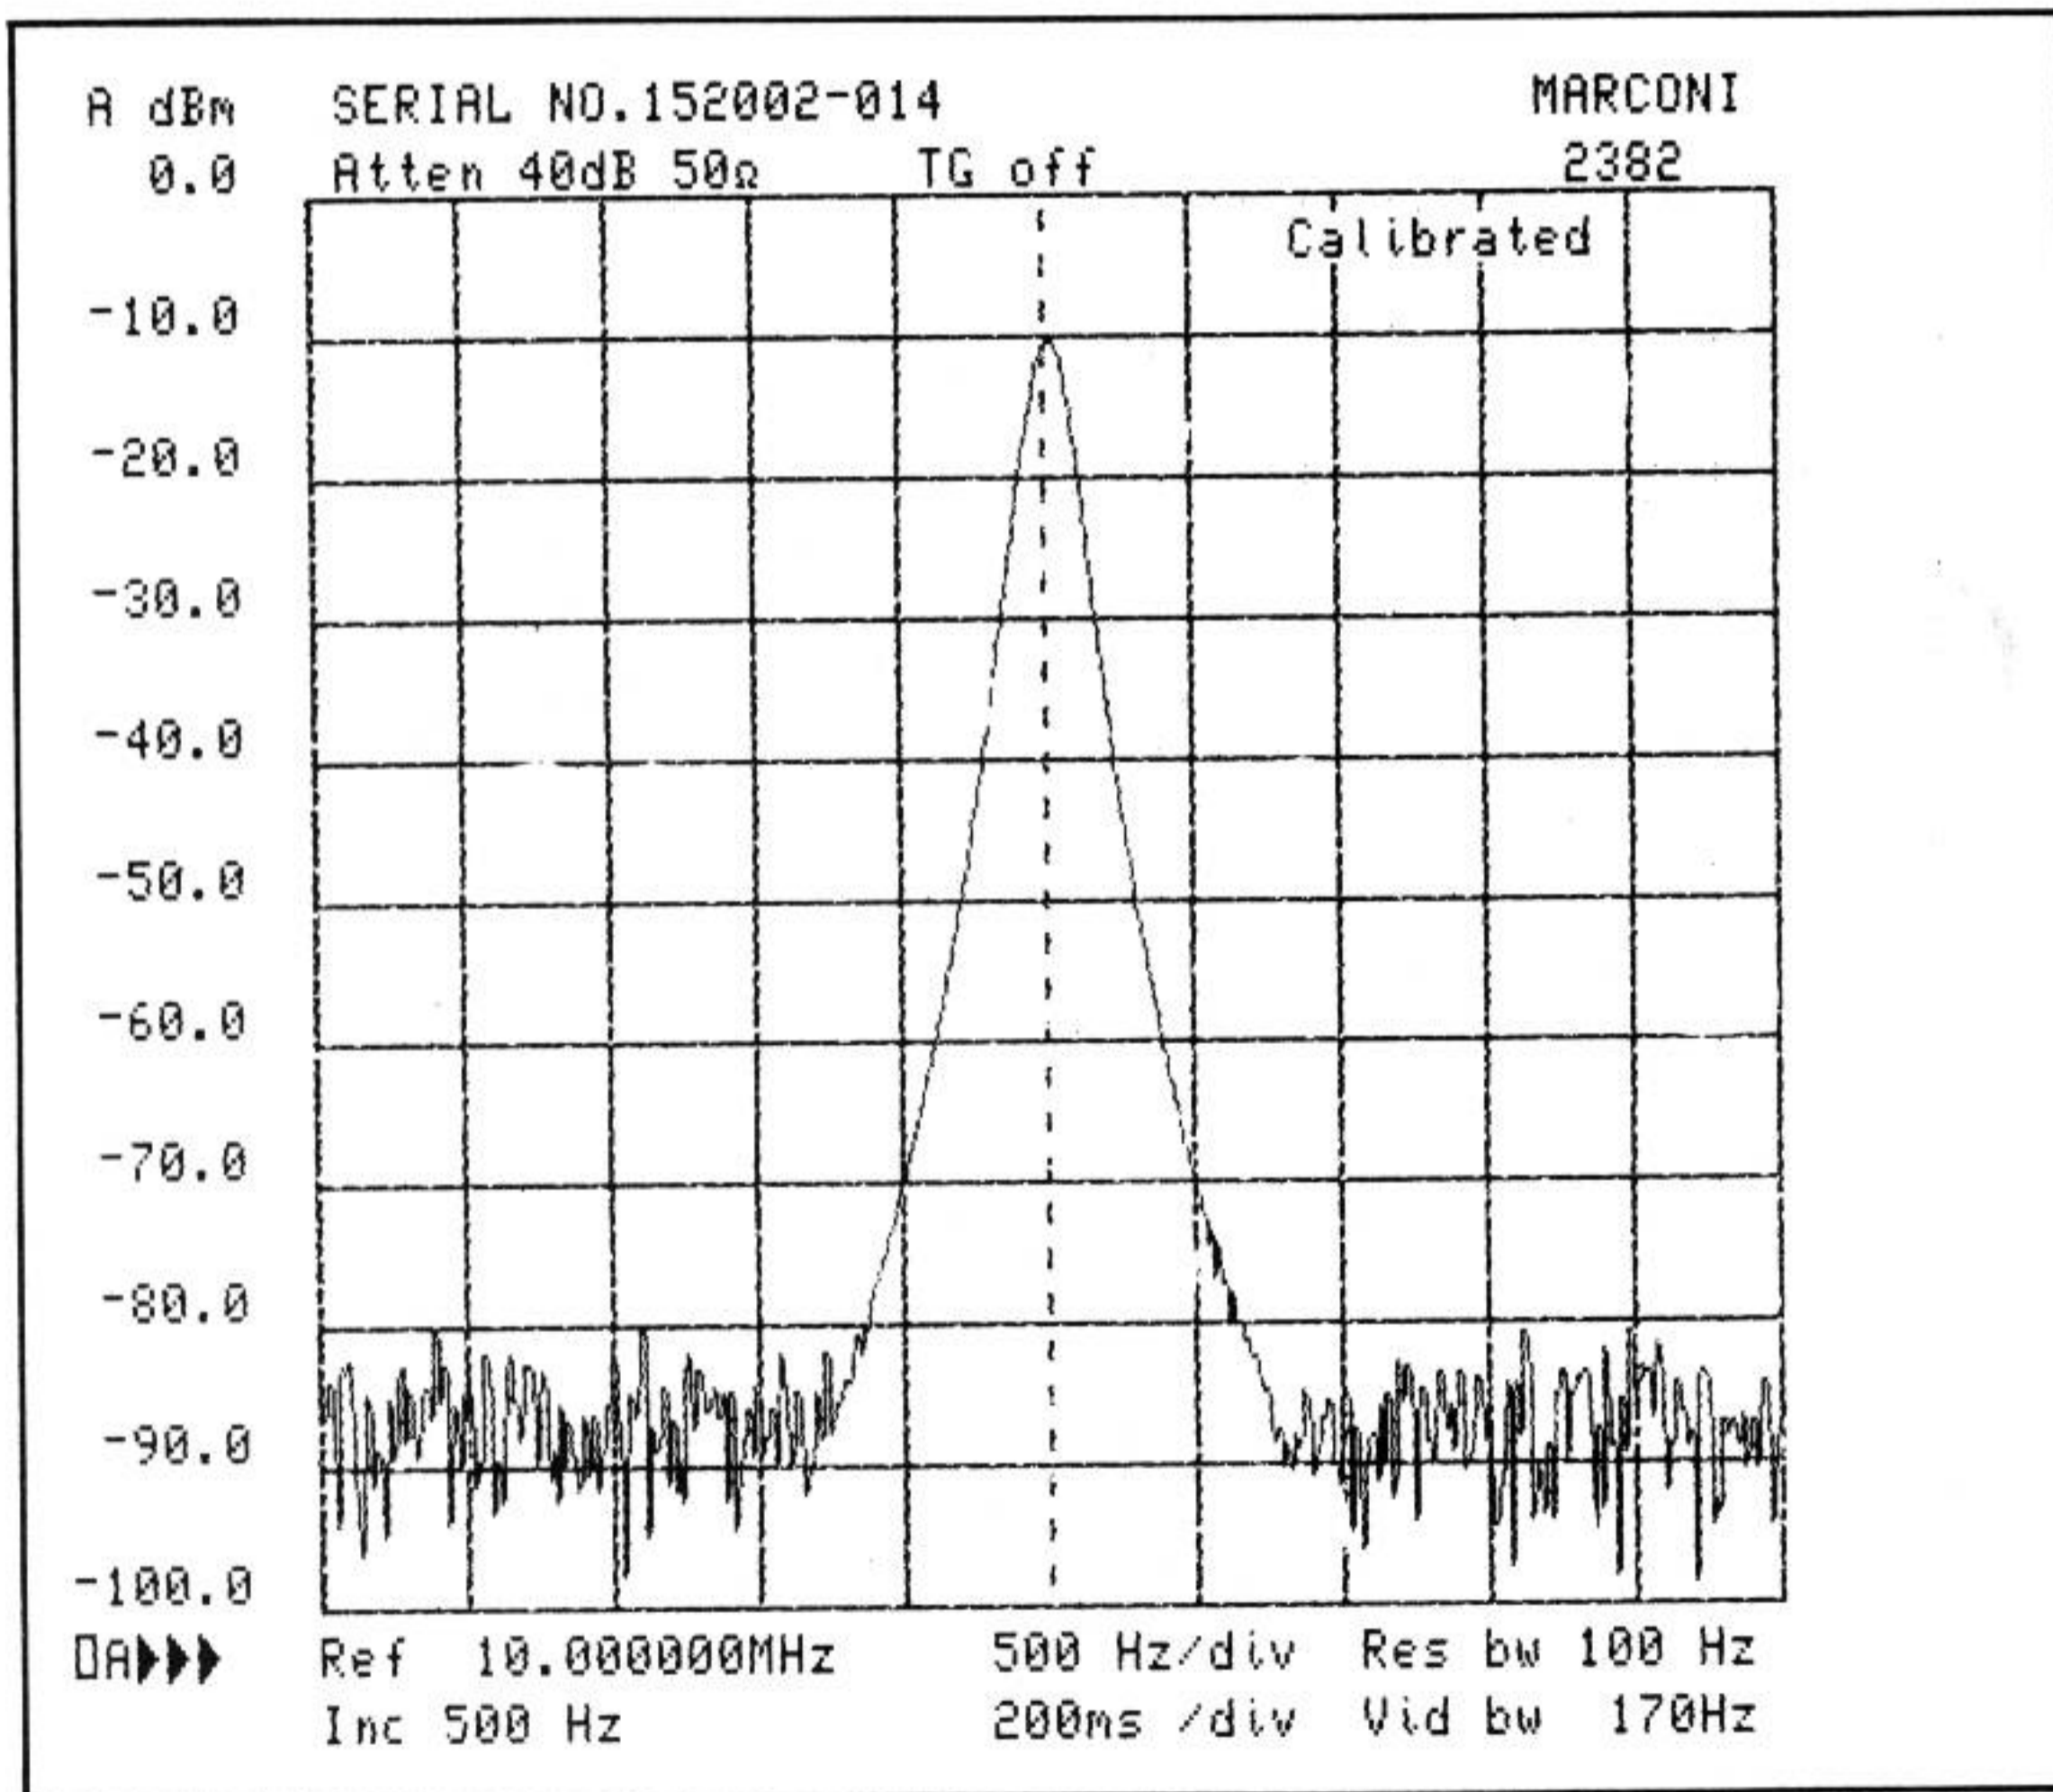

Fig. 5 Fundamental of 10 MHz cal. sig. (/DIV)
25. Vary the setting of the SPAN/DIV 'click' control [29] and watch the displayed spectrum adjust to the new conditions. Anticlockwise rotation decreases the Hz/div. At each value of Hz/div. r.f. attenuation, filter bandwidth, sweep time, video bandwidth and their annotations are adjusted automatically, sensitivity remaining unchanged. Notice that incremental frequency takes the same value as the span/div. at each variation of the SPAN/DIV control. If necessary the REF FREQ rotary control can be used to align the peak of the response with the dashed vertical line as the frequency span is reduced, or SIG TRACK [15] can be pressed to do this automatically. (Refer to Fig. 5).